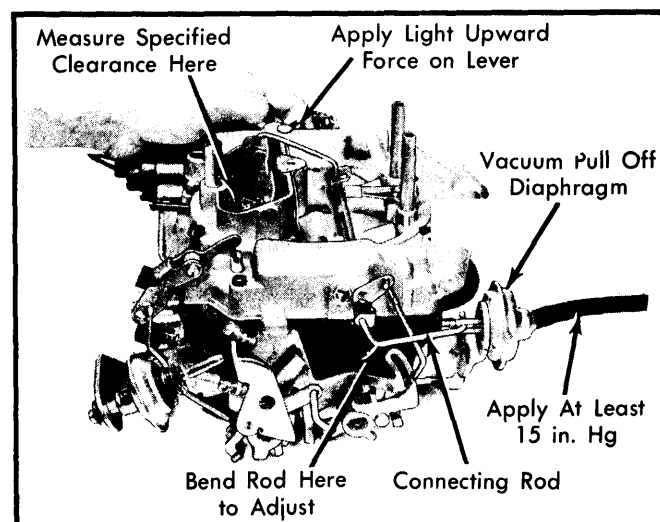

Fig. 11 Adjusting Choke Vacuum Pull Off Control (International Harvester Only)
1) Apply an outside vacuum source of at least 15 in. Hg to choke vacuum pull off diaphragm. Apply a light upward force on choke lever. See Fig. 11.